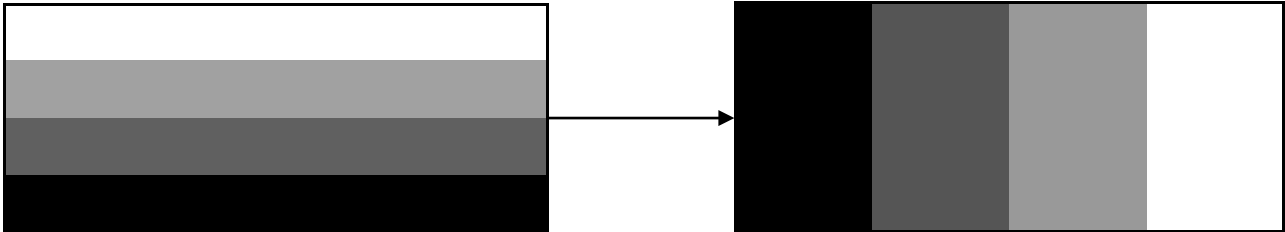

Figure 10-2 The typical power consumption measure pattern
- Notes: 1. The typical power is measured with following transition: from horizontal 4 gray scale pattern to vertical 4 gray scale pattern. (Figure 10-2)